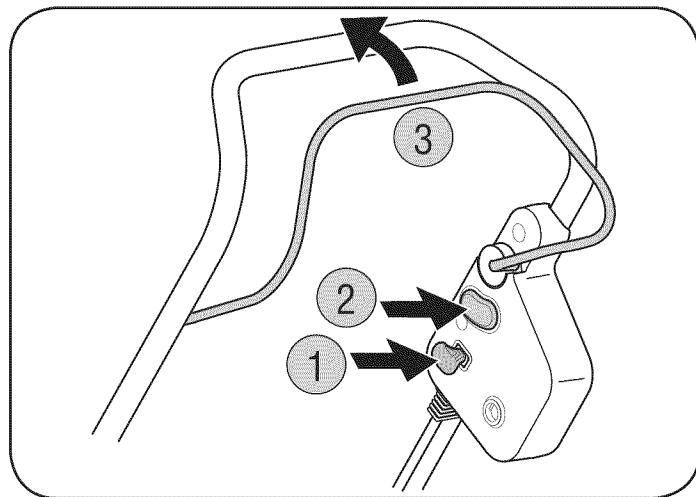

Figure 9
1. Insert key. Refer to Figure 9.